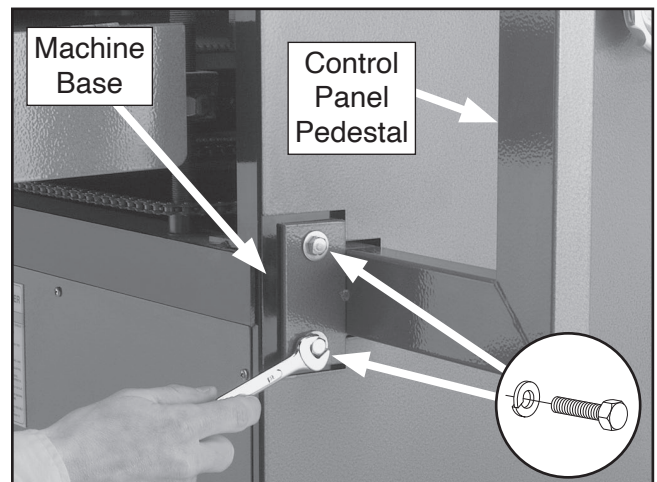

Figure 16. Attaching control panel to machine base.
4. **G1066Z Only:** Attach control panel pedestal to right side of machine with (2) $\frac{5}{16}$ "-18 x 1" hex bolts and (2) $\frac{5}{16}$ " flat washers, as shown in **Figure 16**.